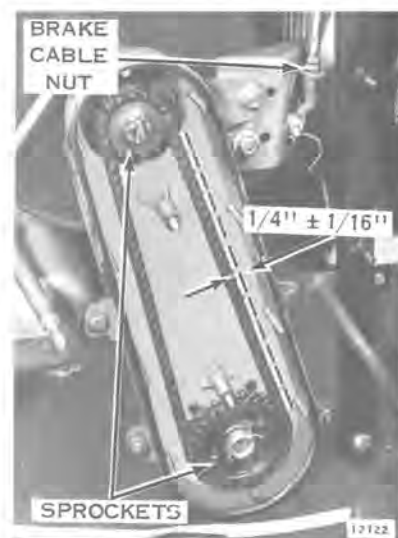

Figure 10-15
3. Remove cotter pin and nut from upper drive sprocket (see Figure 10-15).
Total slack must be $1/4" \pm 1/16"$ as shown in Figure 10-15. To measure this distance, first remove the chain case cover. (Note: Oil will drain when cover is removed unless snowmobile is tilted on its side.) Place a straightedge over the chain at the sprockets, press in on the center of the chain and measure the slack at this point. If the chain requires adjustment, use the following steps: